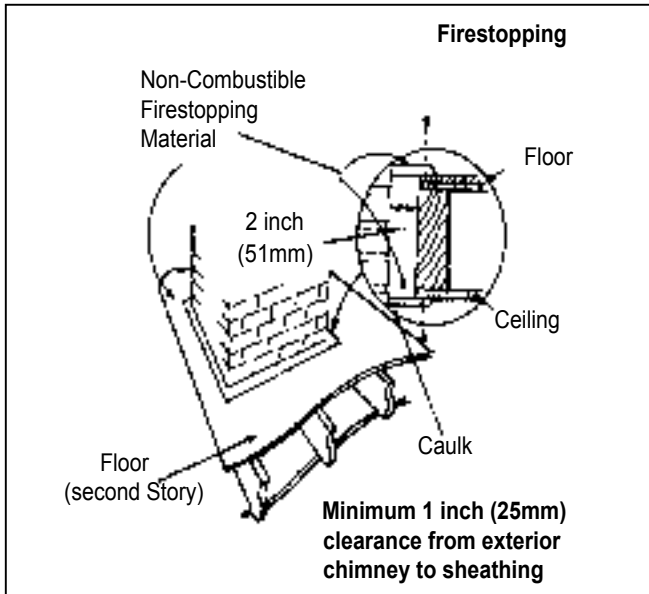

Figure 7.1
**AVOID FIRE:** To ensure that insulation or any other combustible material does not contact the chimney, a chimney inside the house must have at least 2 inches (51mm) of air space clearance around the chimney. A chimney outside the house must have at least 1 inch (25mm) clearance to the combustible structure. Non-combustible fire stops must be installed at the spaces where the chimney passes through floors and/or ceilings. **Refer to Figures 7.1 & 7.2 on page 7. Canadian installations require a full relining of the chimney.**
- A chimney inside the house must have at least 2 inches (51mm) of clearance to the combustible structure. A chimney outside the house must have at least 1 inch (25mm) clearance to the combustible structure. Non-combustible fire stops must be installed at the spaces where the chimney passes through floors and/or ceiling (See Figures 7.1 and 7.2 on page 7).